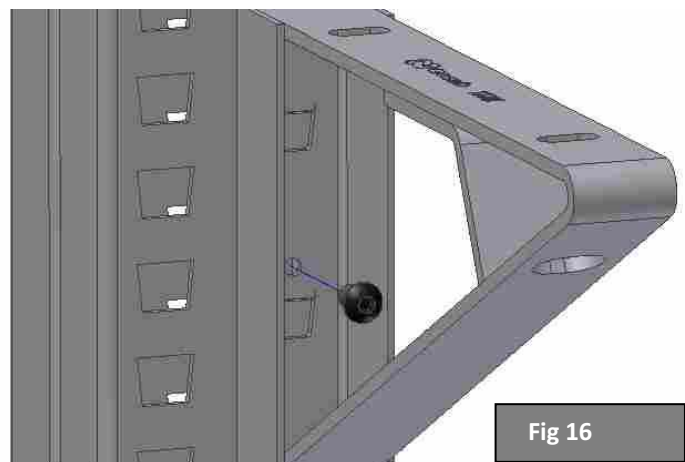

Fig 16
B) Mount the **safety screws (M6x10 ISO7380)** of the **brackets** to prevent them coming out of the trapezoids (Fig. 16).